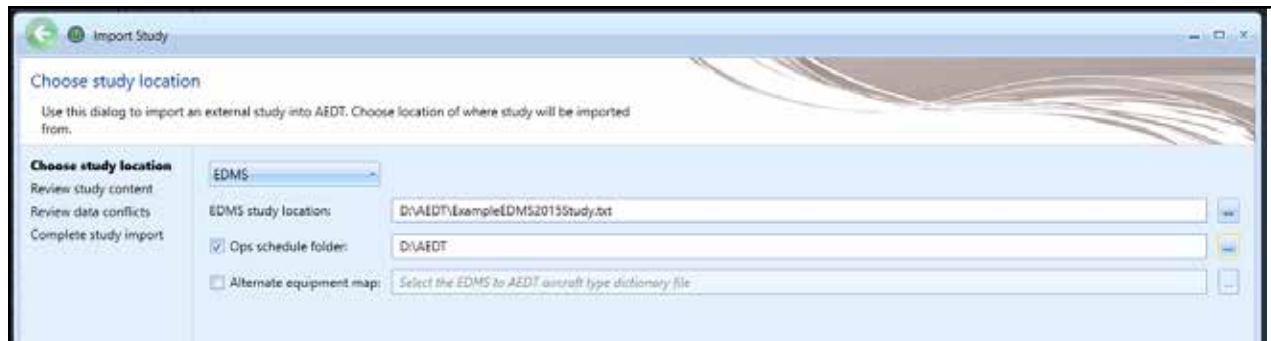

Figure 40. Choose study location
2. Click the *Study* tab and click *Import* to display the *Import Study* dialog (Figure 40).